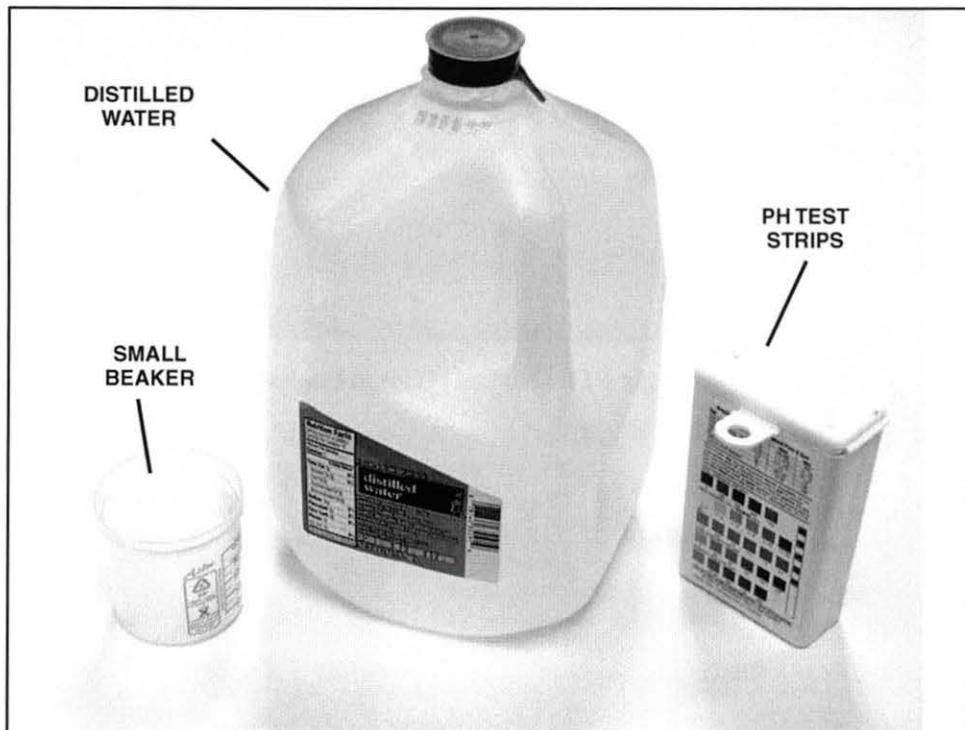

Figure 10. Items for pH Testing
- 1. Locate the following items, shown in figure 10: